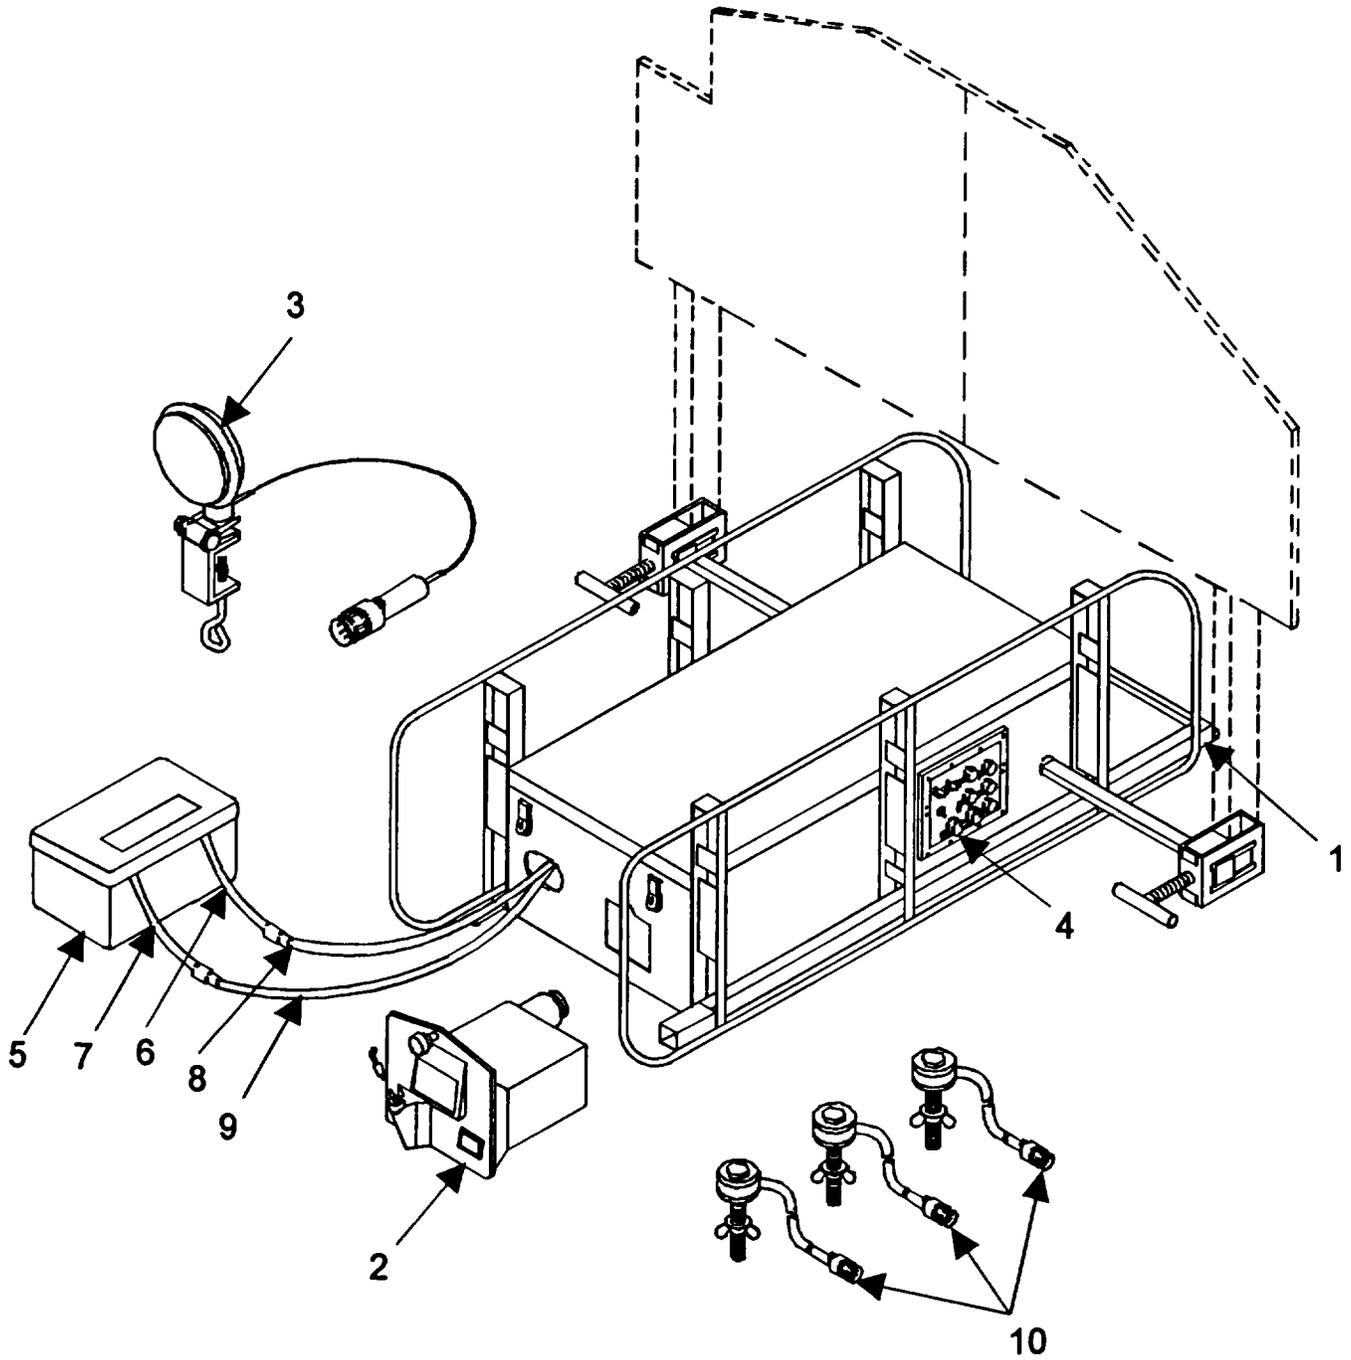

Figure 2-5. Preparation for Use of the Radio-Controlled THM/TG.
**a. Assembly and Preparation of Radio-Controlled THMITG.** To assemble and prepare the radiocontrolled THM/TG for operation, refer to figure 2-5 and FO-1 and perform the following steps:
- (1) Extend the stabilizer assembly (1).
- (2) Install radio receiver (2) into tank target assembly. Connect the receiver antenna to the receiver.
- (3) Remove access door and connect cable from control assembly P1 to rear of receiver J1.
- (4) Remove 14 screws, lockwashers, and flat washers and remove cover from hydraulic unit. Remove breather and check fluid level. Level should be within 1/2-in (13 mm) from top. Install breather and cover. Apply a bead of white petroleum around the edge of the hydraulic unit cover. Install access door.
- (5) Position lamp assembly (3) on mounting surface and tighten thumbscrew. Turn the lamp head toward the firing line of the range. Connect the lamp assembly cable to LAMP connector on control assembly (4).
- (6) Position the battery box assembly (5) near the tank target assembly in a protected area on bunker pad.